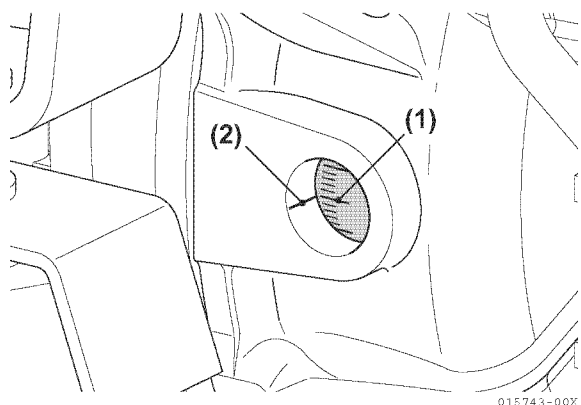

Figure 6-88
2. Rotate the flywheel until the target timing mark (**Figure 6-88, (1)**) and the timing reference mark (**Figure 6-88, (2)**) on the flywheel housing are aligned. **NOTICE:** Do not rotate the crankshaft during the remainder of this procedure.